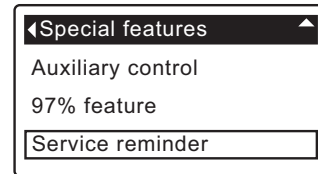

FIG. 87
1. From any of the rolling status screens, press the SELECT (O) button to display the **Main menu**.
3. Press the SELECT (O) button to display the Advanced settings menu.
5. Press the SELECT (O) button to display the Special features menu (See Figure 87).
9. Press the SELECT (O) button. The display will go back to the Special features menu (Figure 87).